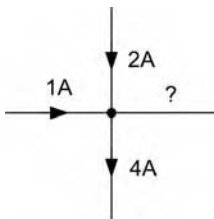

Figure 5.210
34. The unknown current shown in Figure 5.210 will be: